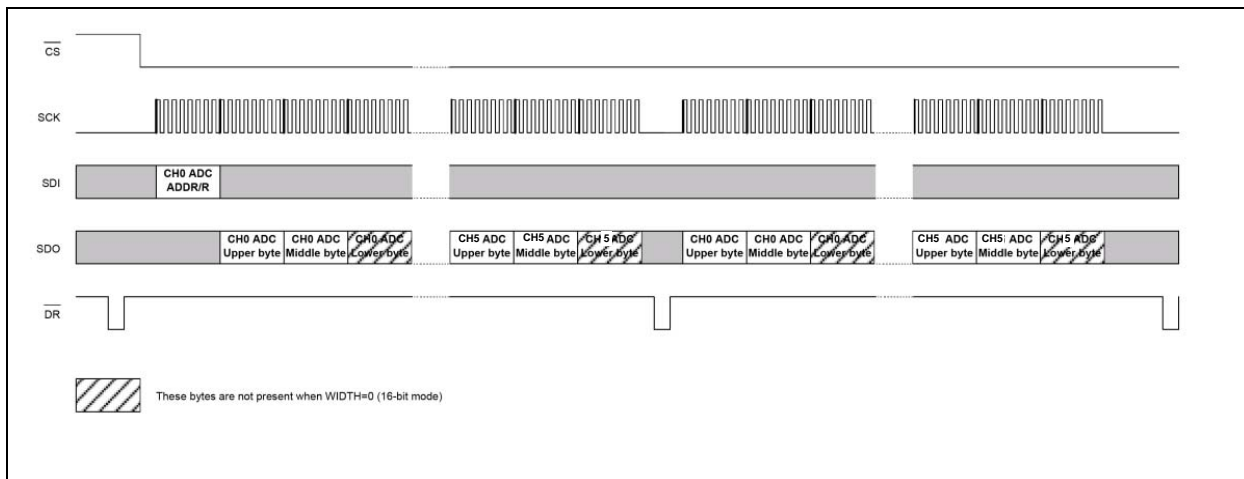

FIGURE 6-6: Typical Continuous Read Communication.
- Write all configuration registers in one communication (see Figure 6-6)
All ADCs are powered up with their default configurations, and begin to output data ready pulses immediately (RESET<5:0> and SHUTDOWN<5:0> bits are off by default). The default output codes for both ADCs are all zeros. The default modulator output for both ADCs is 0011 (corresponding to a theoretical zero voltage at the inputs). The default phase is zero between the two channels. It is recommended to enter into ADC reset mode for both ADCs just after power-up because the desired MCP3903 register configuration may not be the default one and in this case, the ADC would output undesired data. Within the ADC reset mode (RESET<5:0>=111111), the user can configure the whole part with a single communication. The write commands automatically increment the address so the user can start writing the PHASE register and finish with the CONFIG register in only one communication (see Figure 6-6). The RESET<5:0> bits are in the CONFIG register to allow it to exit soft reset mode and have the whole part configured and ready to run in only one command.